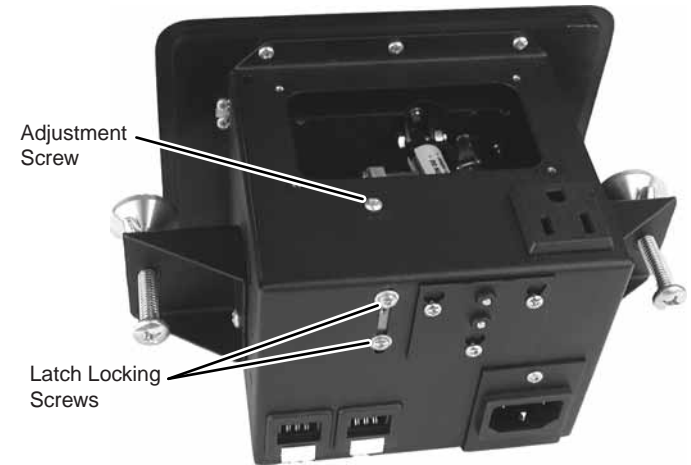

Figure 3-10 — Adjusting the top panel
3. Slightly loosen the two latch locking screws (figure 3-10) on the underside of the surface mount enclosure. These screws lock the latch in place once it is adjusted.